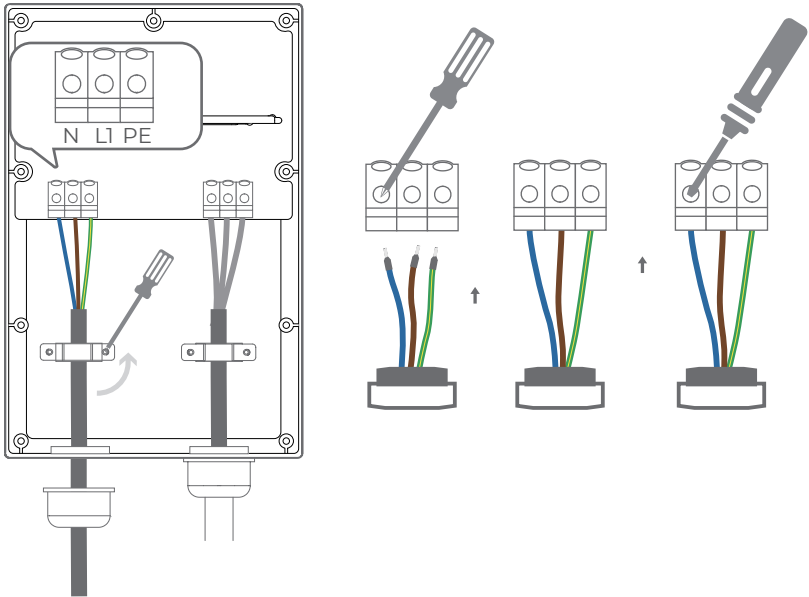

Fig. 5-7
6. Loosen the three terminal screws with a Phillips screwdriver and fully insert each wire connector into the correct terminal block. Use a torque screwdriver to tighten the terminal screws with a torque of 19.6 N.cm. Then reinstall the wire holding plate. (See Fig. 5-7)